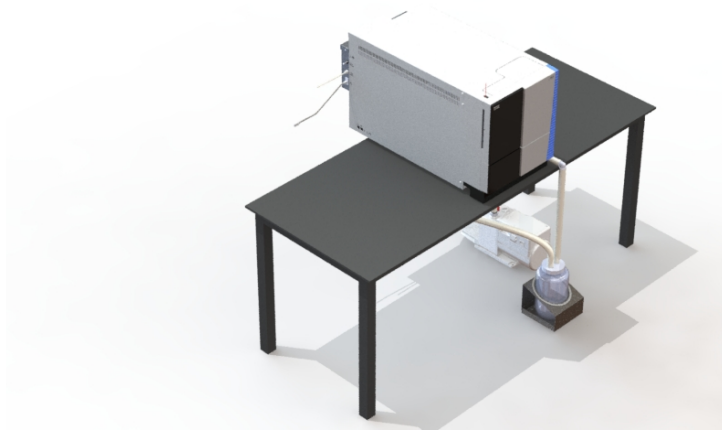

Figure 4: ISQ EC Bench Setup
- 4) Ensure that your work area is stable and free of vibration from nearby equipment. The ISQ EC or ISQ EM mass spectrometer is a sensitive instrument. For this reason, the foreline pump must be placed on the floor below or next to the system. It is quiet at only 48 dB (A). See Figure 4.